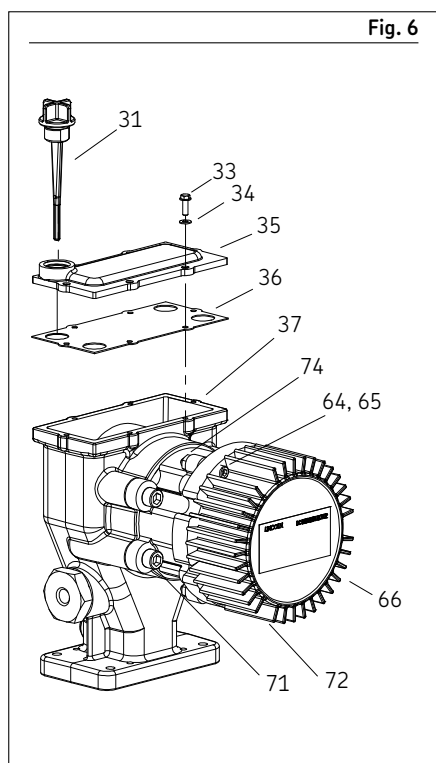

Fig. 6
- 2 Remove dipstick (31).
- 4 Remove housing cover screws (33) (→ Fig. 6).
- 5 Remove housing cover (35) and gasket (36).
- 6 Loosen and remove three jam nuts (74) from electric motor (66) (→ Fig. 6).
- 7 Remove electric motor (66) mounting screws (64) with lock washers (65).
- 8 Remove electric motor (66).
- 9 Remove motor o-ring (73).